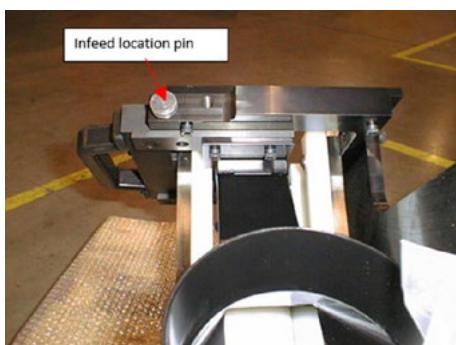

Figure 4
- b. Adjust the width of the infeed to match the length of the new can height by disengaging the 4 pins and slide the infeed to the proper width and engage the pins in the locating holes. (Figure 4)